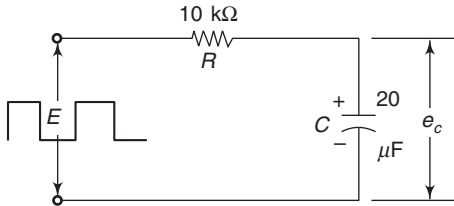

Fig. 8.11
8.9 The circuit shown in Fig. 8.11 has the following pulse inputs applied: